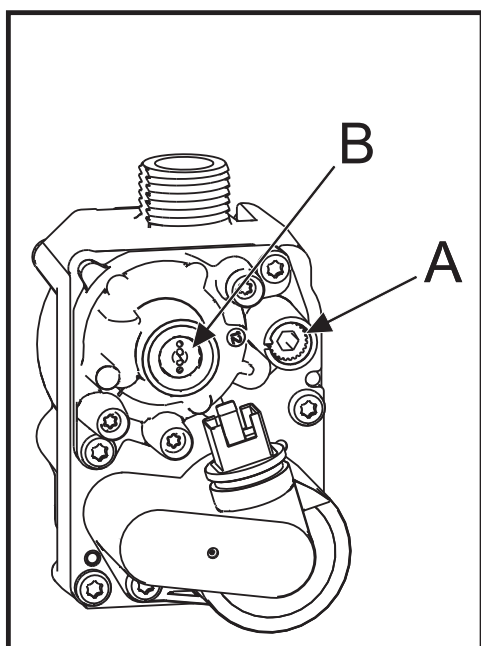

fig. 33 - Gas valve
3. Now adjust the **Throttle setting** (fig. 33 - screw **A**) until the CO₂ is at the correct **SETTING LEVEL** (see table 4), confirm that the CO/CO₂ ratio is within limits.
2. Now adjust the **offset pressure setting** (fig. 33 - cup **B**) until the CO₂ is at the correct **SETTING LEVEL** (see table 5), confirm that the CO/CO₂ ratio is within limits.